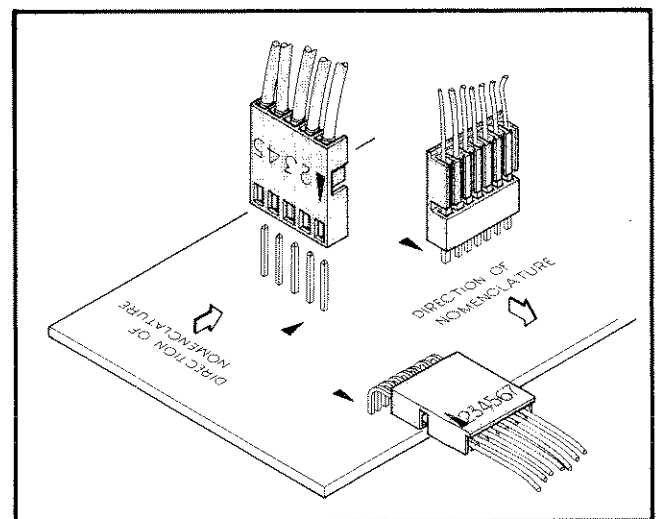

Fig. 2-2. Multipin circuit board connectors.
**Multiple Terminal Connector Holders.** Most inter-circuit connections between the circuit boards, or between the boards and chassis mounted components, are made through pin connectors. The terminals in the connector holder are identified with numbers. Connector orientation to the circuit board is keyed with triangles, one on the holder and one on the circuit board. See Fig. 2-2.